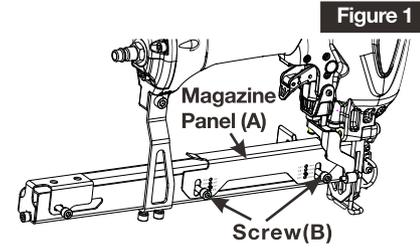

Figure 1
- Loosen the Screws on the Magazine Panel (A). (See Figure 1).
- Tighten the Screws (B). (See Figure 1).